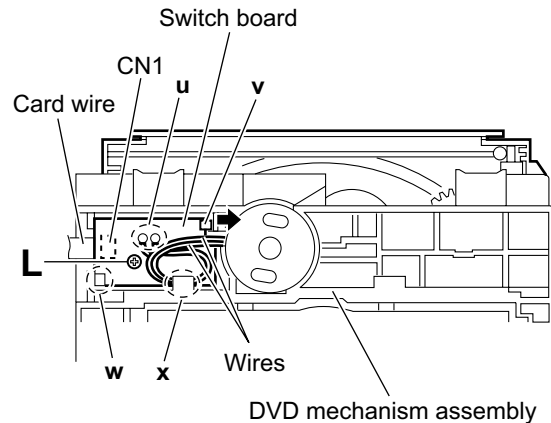

Fig.14
3.2.9 Removing the switch board (See Fig.14.)
3.2.10 Removing the motor (See Figs.14 and 15)
- (1) From the bottom side of the DVD mechanism assembly, remove the wires from the soldered section **u** on the switch board. (See Fig.14.)
Put the wires on the section **x** after attaching the motor to the DVD mechanism assembly. (See Fig.14.)